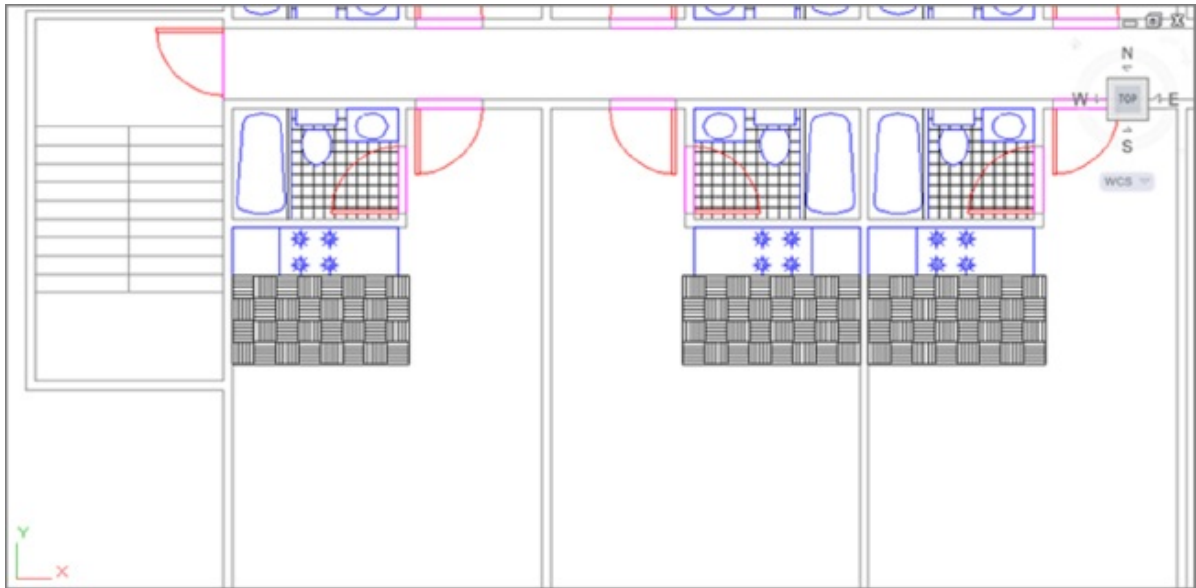

FIGURE 7.24 The Xrefs after being edited
5. Zoom back to your previous view. Notice that the other units reflect the changes you made to the 07-unitxref Xref (see Figure 7.24).